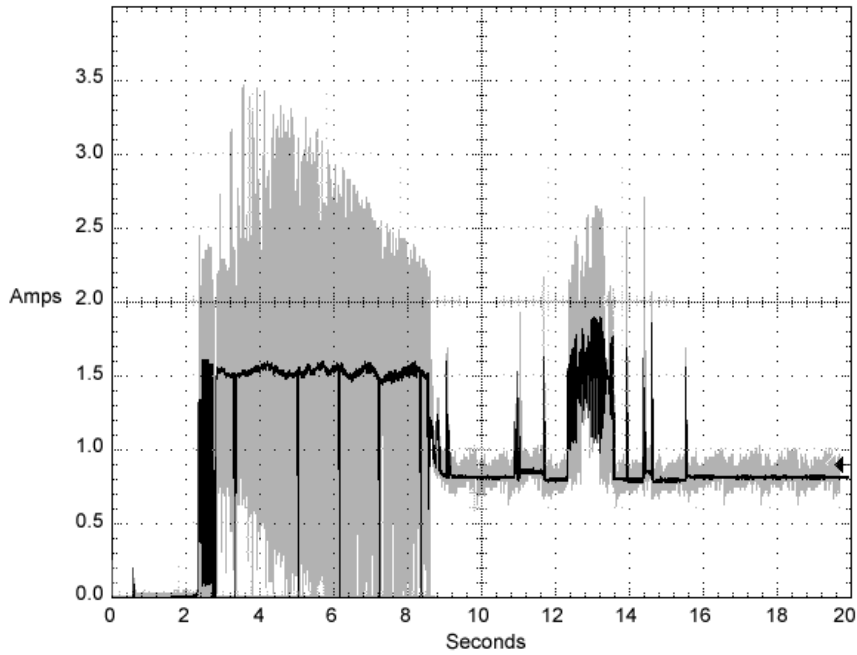

Figure 2. Typical ST3146854SS drive +12V current profile
- [3] See +12V current profile in Figure 2.